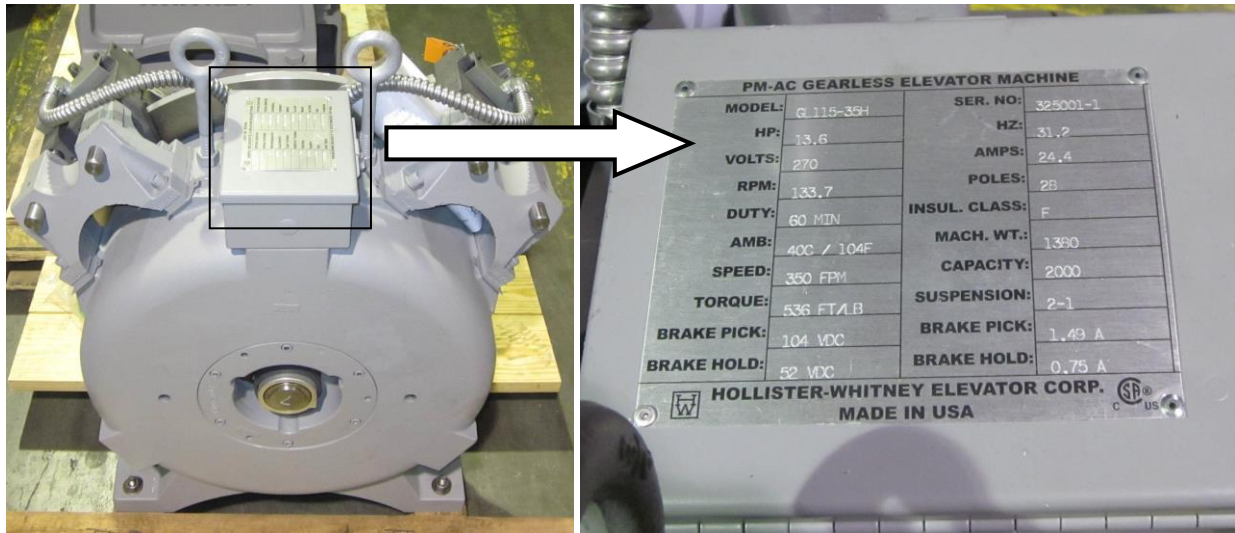

Figure 10
- Check the machine data tag to ensure the machine conforms to your order. (An example data tag is shown in Figure 10.)
- Verify the electrical supply from the elevator drive and brake power supplies match the machine data tag. Refer to Figure 10.
- Verify all the motor related settings in the elevator controller match the information on the machine data tag. Refer to Figure 10.
- Verify that all the brake parameters match the information on the machine data tag. Refer to Figure 10.